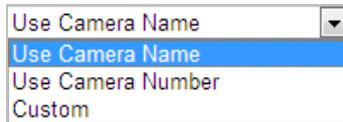

Figure 6-11 Child Directory
- ◆ **Child directory:** It is a sub-folder which can be created in the parent directory. The files will be saved in a sub-folder in FTP server. The name of folder can be defined as shown in Figure 6-11.